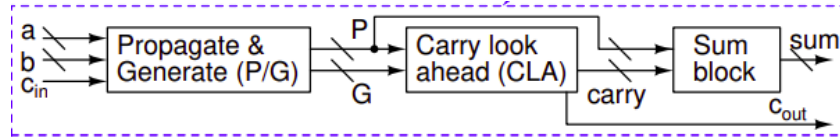

Figure 1: Different blocks in Adder
You are asked to design a 4-bit carry look ahead (CLA) adder as shown in Fig.1. Each output sum bit needs to drive an inverter of size $\frac{W_p}{W_n} = \frac{20\lambda}{10\lambda}$, where $\lambda = 0.09\mu m$. You can choose any logic style (static, dynamic, mix) to implement the circuit.
6. Integrate different block designed in previous steps and write the netlist for the full circuit shown in figure 1. Use NGSPICE and verify the functionality of the circuit. Attach the properly annotated waveforms. Report the worst case delay of your adder and maximum clock speed for which your design operates correctly.